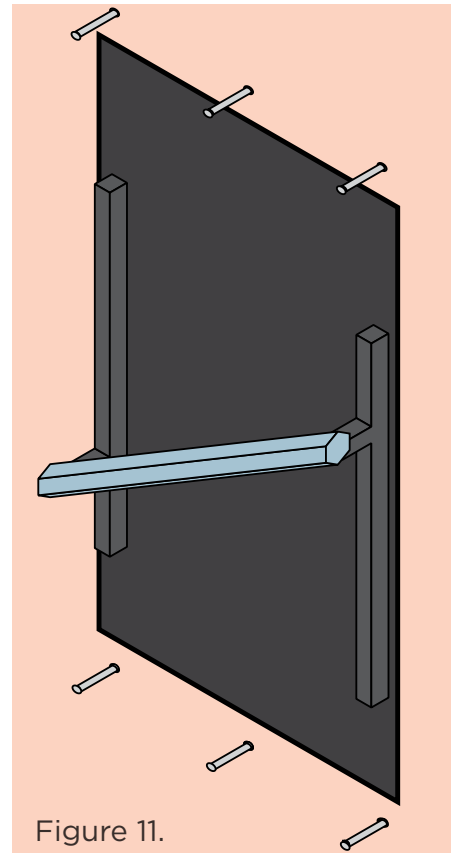

Figure 11.
- Insert the (6) speaker mounting screws to secure the speaker to the wall or ceiling. See Figure 11.